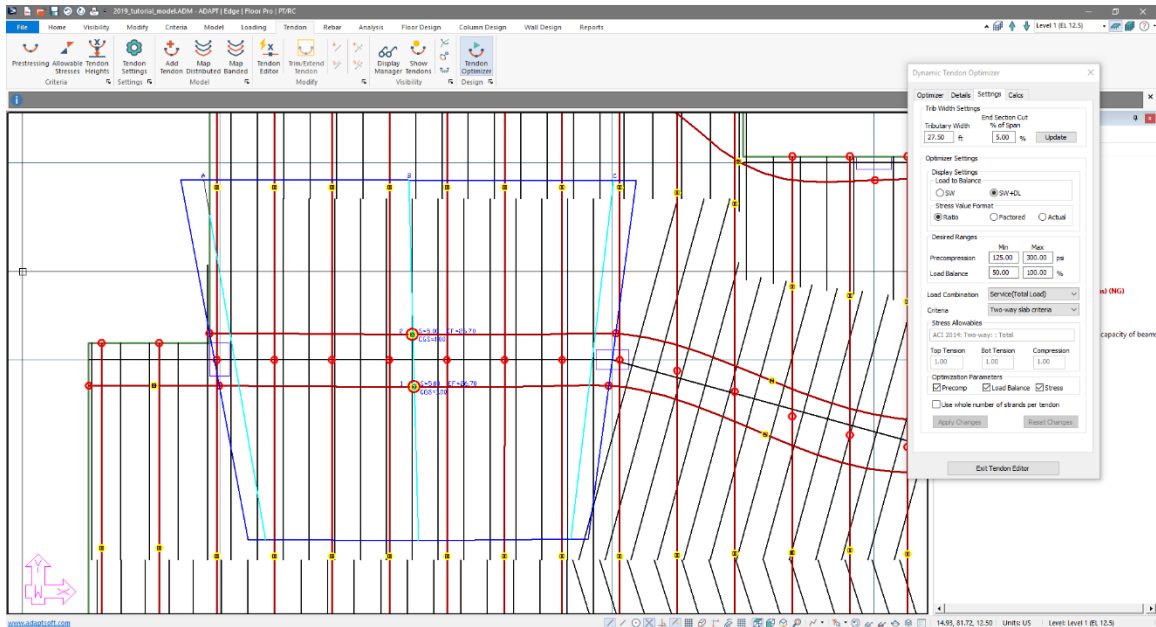

Figure 9-92
- Click on the *Update* button in the *Trib Width Settings* section. The tributary and the sections will update as shown in **FIGURE 9-92**.